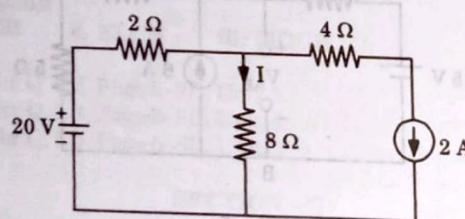

Fig. 8.
- b. Determine current through 8Ω resistor and power in the 4Ω in the network shown in Fig. 8 using superposition theorem.